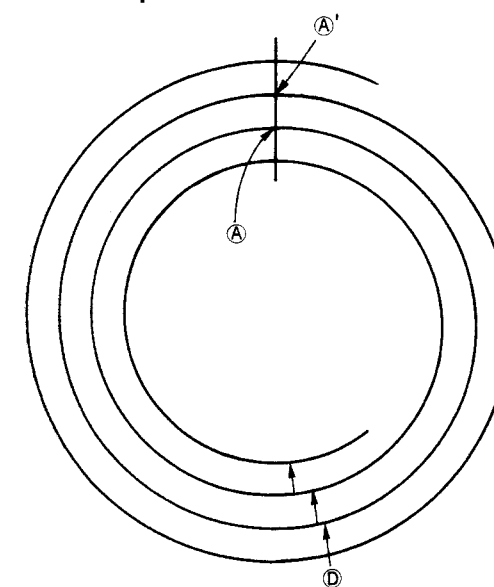

Fig. 2-2-3
In Fig. 2-2-3, 2-track reverse jump occurs at point (D) in the previously mentioned STILL mode to repeat the operation to return to point (A). When 1-track reverse jump occurs at point (D), the ROT signal detection point is shifted to point (A') which is toward the external circumference by 1-track when compared to point (A). When ordinary STILL operation is performed starting at point (A'), the field shifted toward the external circumference by 1-track is written to memory for playback which enables STEP FWD operation. Also, when 3-track reverse jump occurs at point (D), a field toward the inner circumference by 1-track is written to memory for playback. As a result, STEP REV operation occurs.